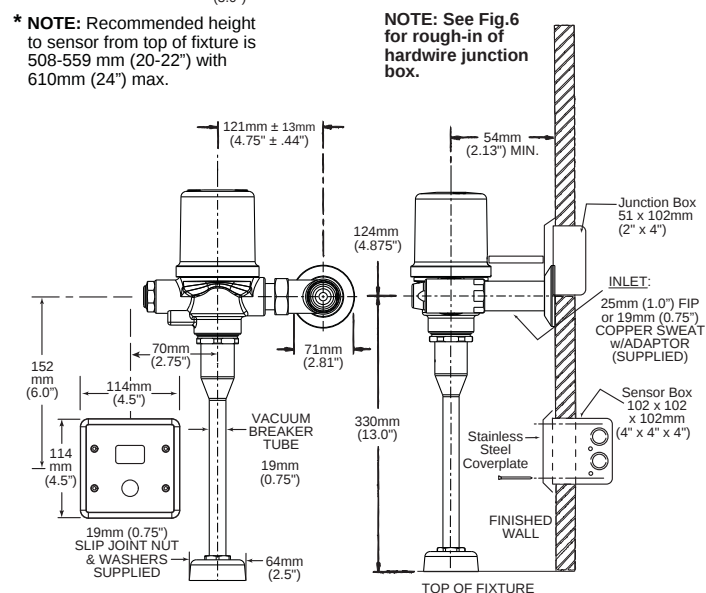

Fig. 3
- 102mm (4") box is supplied, remove suitable knockouts and insert cable bushing as per Fig. 3.
- 102mm (4") box and 4" box extension is supplied. Remove suitable knockout as per Fig. 3.